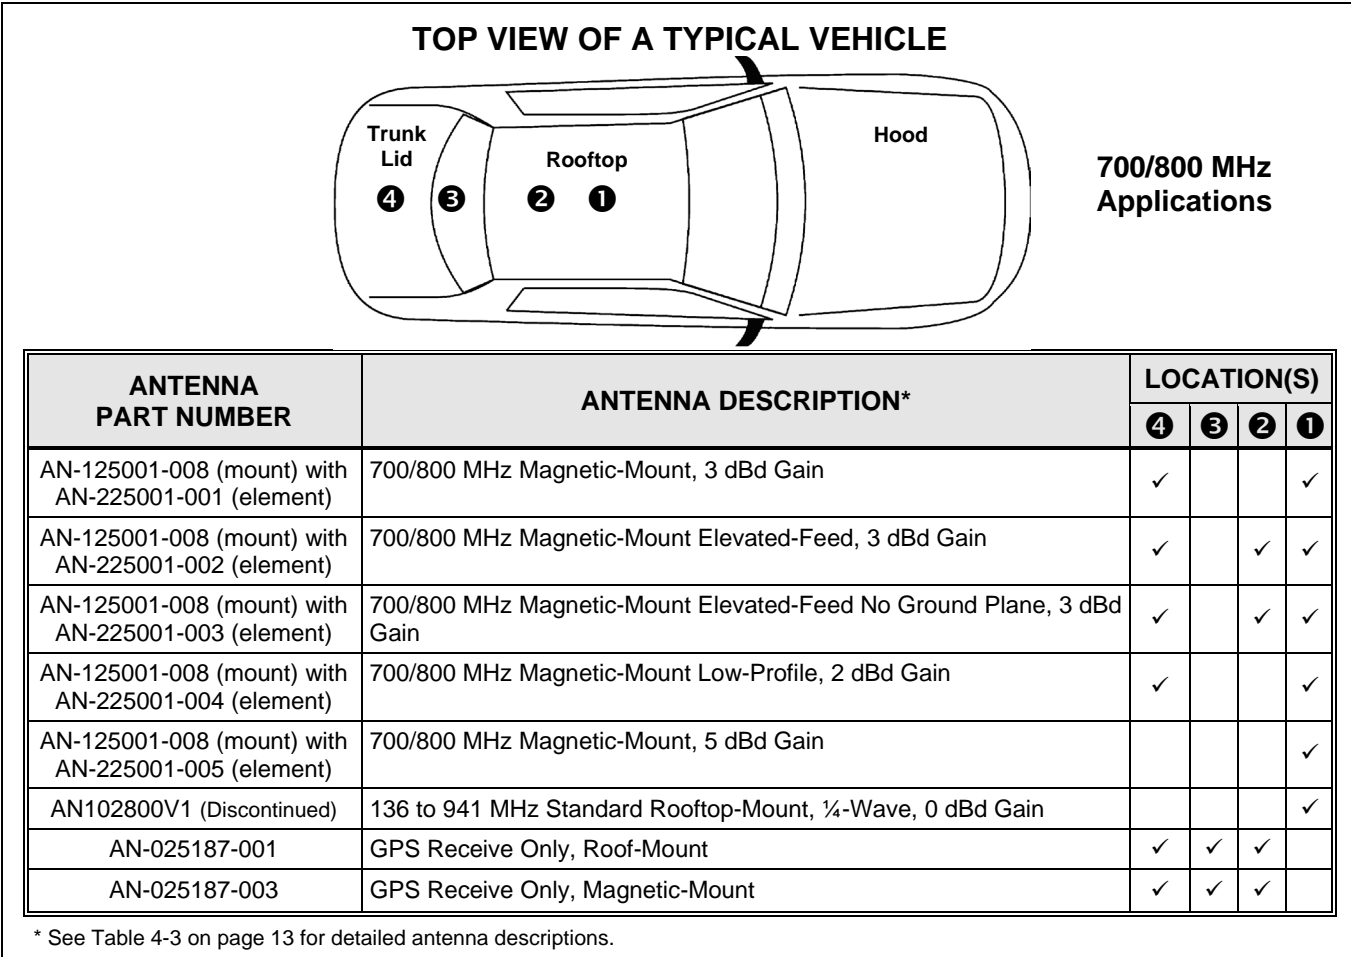

Figure 6-2: Recommended 700/800 MHz Antenna Mounting Locations with Antenna Part Numbers
- For a 35-Watt 700/800 MHz Radio: See Figure 6-2 (page 20)
Antennas must be mounted in one of four (4) possible locations on the vehicle. Figure 6-1 and Figure 6-2 shows the recommended locations and antenna part numbers. Also, see Table 4-3 for additional information. Always follow the antenna manufacturer's instructions when mounting an antenna.
Table 4-3 (page 13), Figure 6-1 and Figure 6-2 list the mobile radio antennas available for use with the respective radio. As presented in the previous section, various mounting locations exist. Optimal performance is achieved via a rooftop antenna mounted in the direct center of the motor vehicle’s roof.